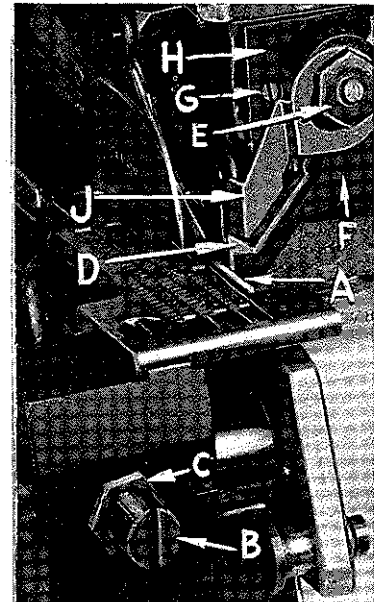

Fig. 13
Replace lower knife holder assembly. Lower knife (A, Fig. 13) should be set with cutting edge flush with throat plate surface. Adjustments are made with hexagonal head screw which holds lower knife. Lower knife is spring pressed against upper knife, so no lateral adjustment is necessary when width of trim is changed.
Replace upper knife assembly. Clamp upper knife (D, Fig. 13) in position, setting nut (E) to hold clamp (F) in its most clockwise position against upper knife. At bottom of its stroke, front cutting edge of upper knife should extend not less than $\frac{1}{64}$ inch below cutting edge of lower knife. The chain guard (J) should be set down against the upper knife and slightly back from the cutting edge.